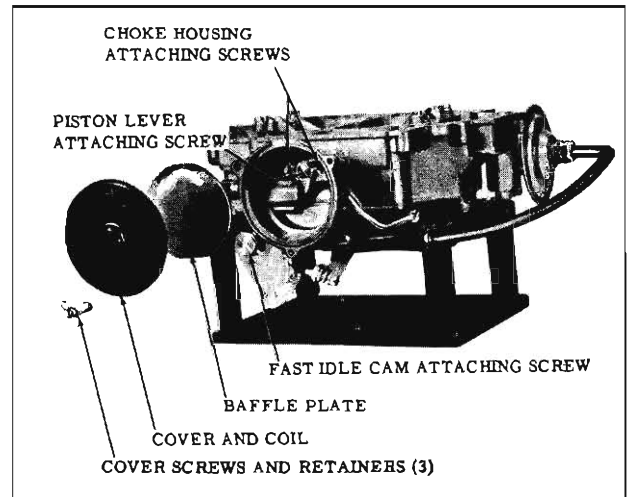

Fig. 4-9 Choke Assembly and Fast Idle Cam
1. Remove the fast idle cam attaching screw, (Fig. 4-9)